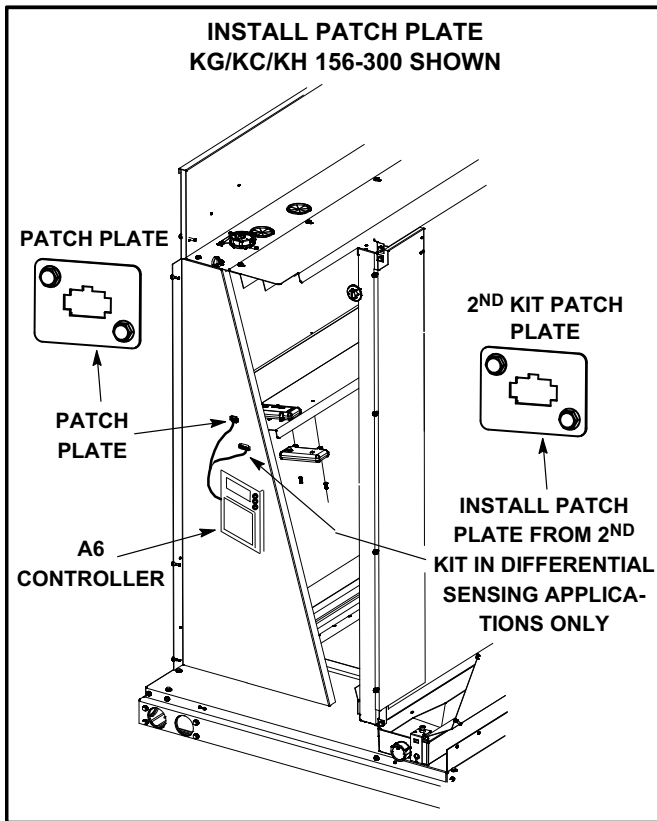
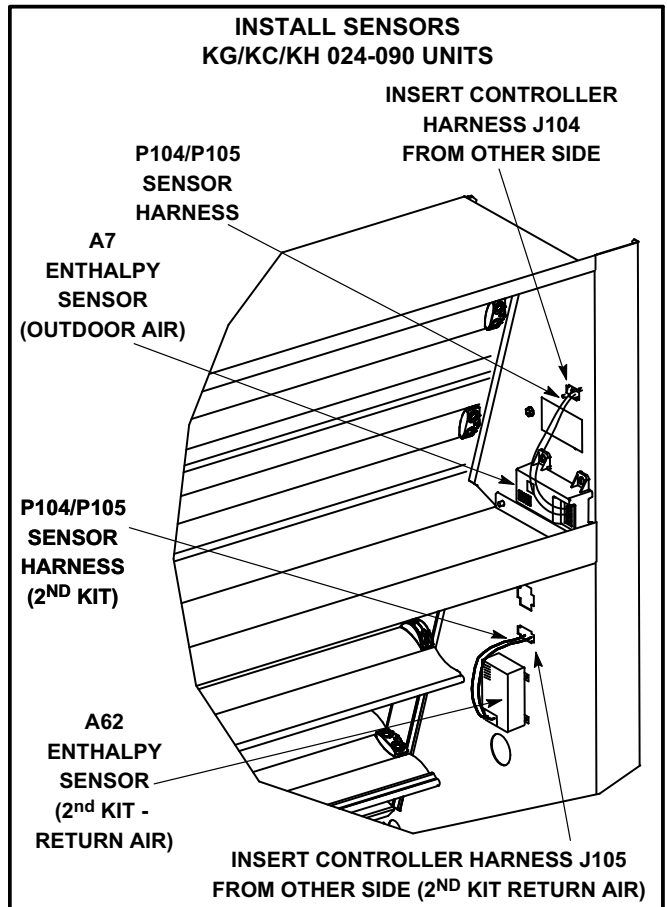
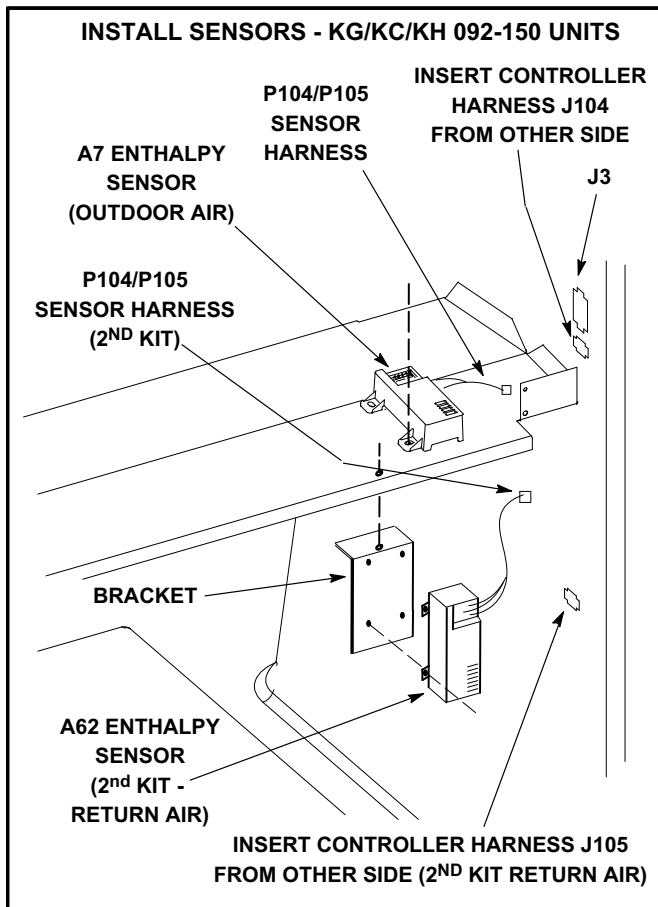
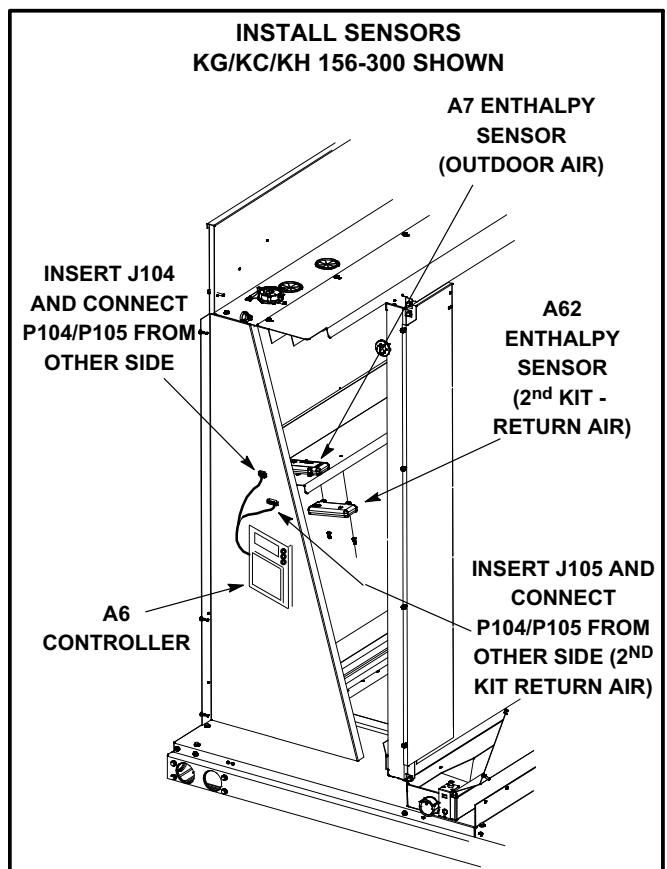

FIGURE 1
FIGURE 3
FIGURE 4
FIGURE 5
- 1- Install patch plate over opening in side panel used by J104 and P104/P105 connectors. See figure 1. Patch plate location is shown on the inside of the side panel in figure 3 for 024-090 units and figure 4 for 092-150 units. Secure with #6-32 screws.
KG/KC/KH 024-090	Figure 3
KG/KC/KH 092-150	Figure 4
KG/KC/KH 156-300	Figure 5
- 1- Insert controller harness J104 jack into the patch plate. Location is shown in figure 3 for 024-090 units, figure 4 for 092-150 units, and figure 5 for 156-300S units.
- 4- Connect P104/P105 sensor plug into J104 previously installed in side wall. See figure 3 for 024-090 units, figure 4 for 092-150 units, and figure 5 for 156-300S units.
- 1- Insert controller harness J105 jack into the patch plate. Location is shown in figure 3 for 024-090 units, figure 4 for 092-150 units, and figure 5 for 156-300S units.
- 4- Connect P104/P105 sensor harness plug into J105 previously installed in side wall. See figure 3 for 024-090 units, figure 4 for 092-150 units, and figure 5 for 156-300S units.